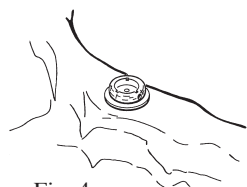

Fig. 4
2. Place a White Block-Out Spacer (Zest order #8519 Package) over the head of each Locator Abutment. (Fig. 4) The spacer is used to block out the area immediately surrounding the abutment. The space created will allow the full resilient function of the pivoting metal denture cap over the Locator Male.